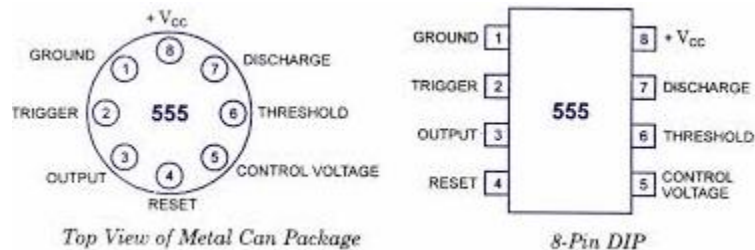

Fig 1 IC 555 pin package
- Fig.1 shows the 8 Pin package